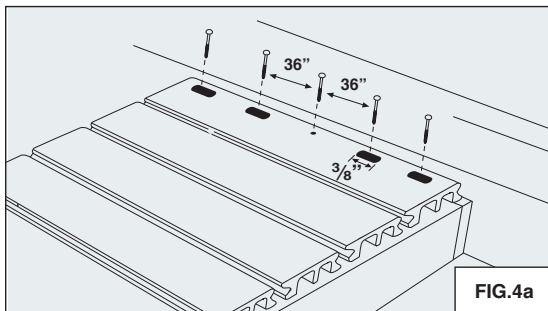

FIG.4a
- In the event you are unable to fit a final row of clips against your substructure pre-drill and screw deck board into joist from top surface. Attach the deck board with screws spaced 36" apart. To avoid complications from expansion/contraction, slot all holes, except the center hole. (REFER TO FIG.4a)